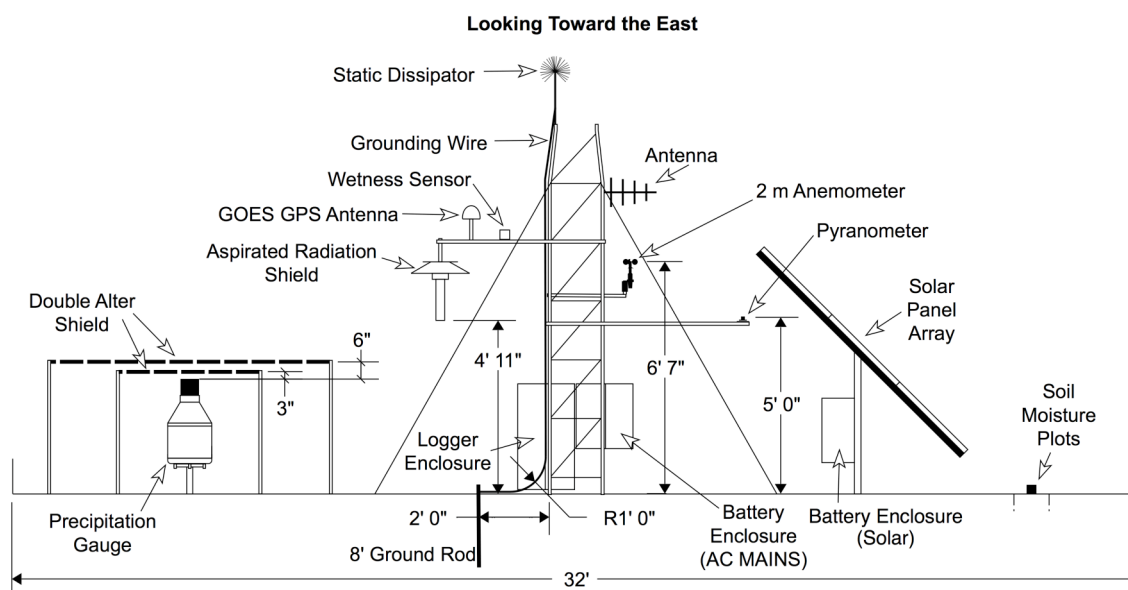

Figure 7. Profile view of a station plot that measures 32-by-32 feet and has a 3-meter tower.
Refer to Figures 7 thru 9 below for the positions and configuration of the equipment. In addition, these procedures cover installation for all possible sensors that could be installed at this type of site; not all of these sensors will be installed at every site.
26. Attach the aspirated radiation shield for the air temperature and relative humidity sensor(s) to the end of its mounting arm, as shown in Figures 7 and 8. Mount the arm to the west-facing flat edge of the tower, with the shield's air inlet 4 feet 11 inches (1.5 meters) above the level of the ground directly below. Install the air temperature sensors and the relative humidity sensor, if provided, and connect them to the logger. Coil and secure any excess cable to the tower near the logger enclosure.